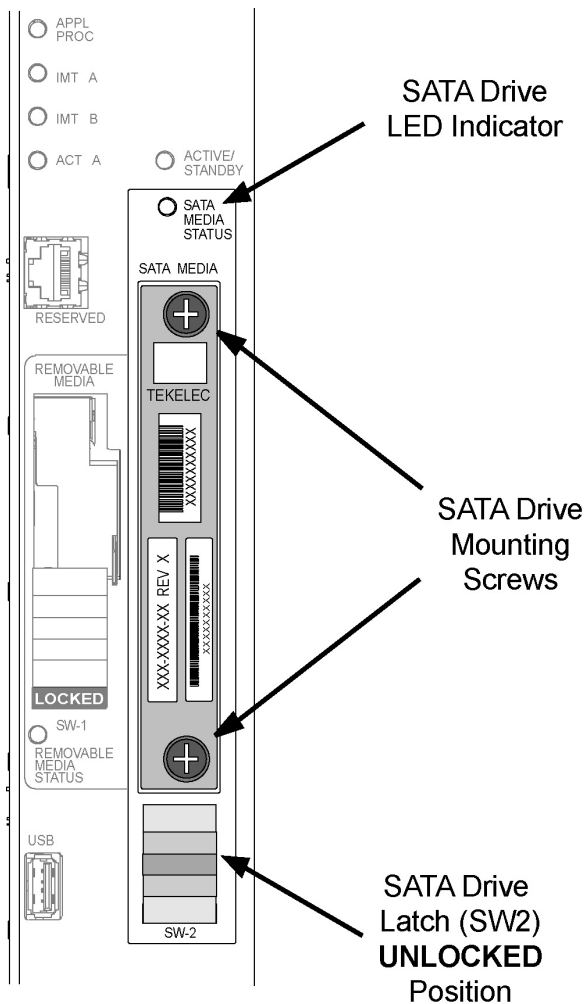

Figure 16: SATA Drive UNLOCKED
12. Move SW2 from the LOCKED to the unlocked position and wait for the LED to indicate a steady blue state. See Figure 16: SATA Drive UNLOCKED.